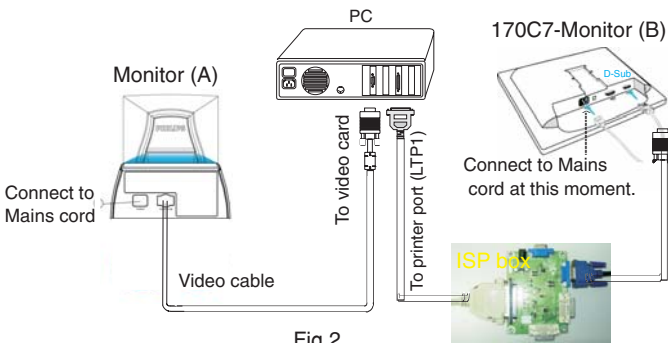

Fig.2
5. Connect DDC2BI\_ISP TOOL and Mains cord to Monitor as shown in Fig. 2.